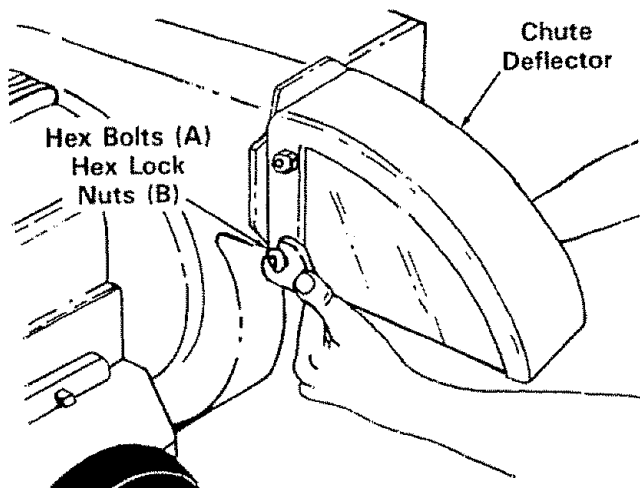

FIGURE 2.
1. Place the chute deflector in position on the discharge opening (on the left side of the chipper-shredder). See figure 2
2. Secure chute deflector to discharge opening with hex bolts (A) and hex lock nuts (B). Heads of the hex bolts are inside the discharge opening. Hex nuts go on the outside